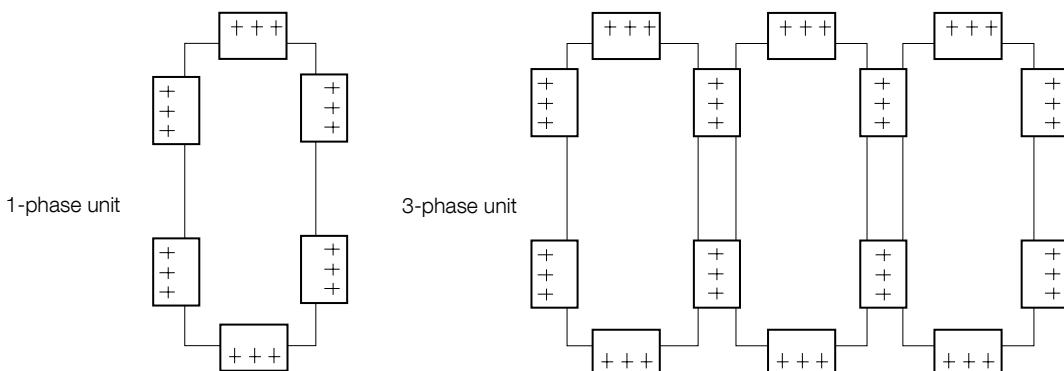

Fig. 6. Mounting of gaskets.
- Mount the nuts on the studs and tighten them in the order shown in Fig. 6. Always start with the middle of the three nuts for one clamp. Tighten with 5–15 Nm first and thereafter twice with 22 Nm.
The studs are lubricated with grease for ball bearings. Tighten the M8 nuts with dynamometric wrench 13 Nm, the first time in sequence according to Fig. 6 and the second time without special sequence. Re-tightening of the nuts shall be done earliest 5 hours after the previous tightening with 13 Nm without special sequence.